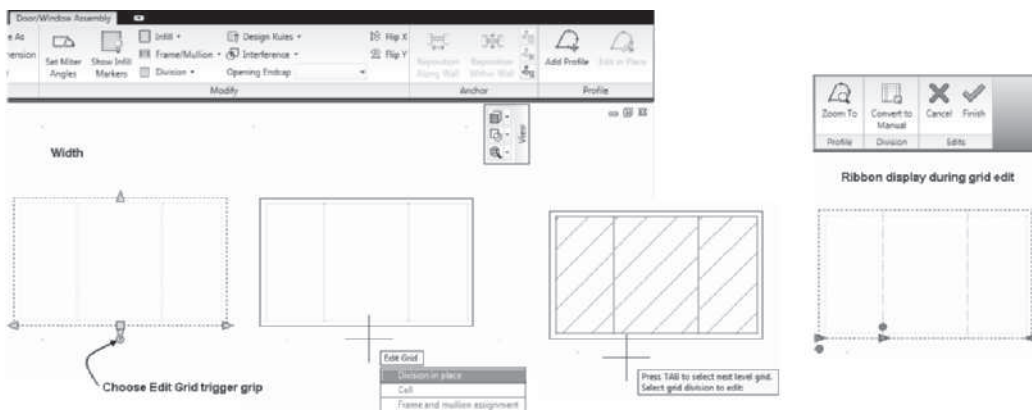

FIGURE 6.14 Editing grips of the door/window assembly
1. Select a door/window assembly; the grips of the unit are displayed as shown at the left in Figure 6.14.
3. When you select the Edit Grid trigger grip, you are prompted to select one of the following options: Division in place, Cell, or Frame and mullion assignment. Choose the *Division in place* option. You are then prompted to select an edge to edit. Move the cursor over the edge of the door/window assembly to display the hatch pattern as shown in Figure 6.14. Click to select the grid edge.
4. When In-Place Editing begins, additional grips are displayed on the assembly to help you edit the grid as shown at the right in Figure 6.14. The **Edit in Place: Grid Division** contextual tab is displayed, which includes the Finish command to save the edits as shown at the right in Figure 6.14.